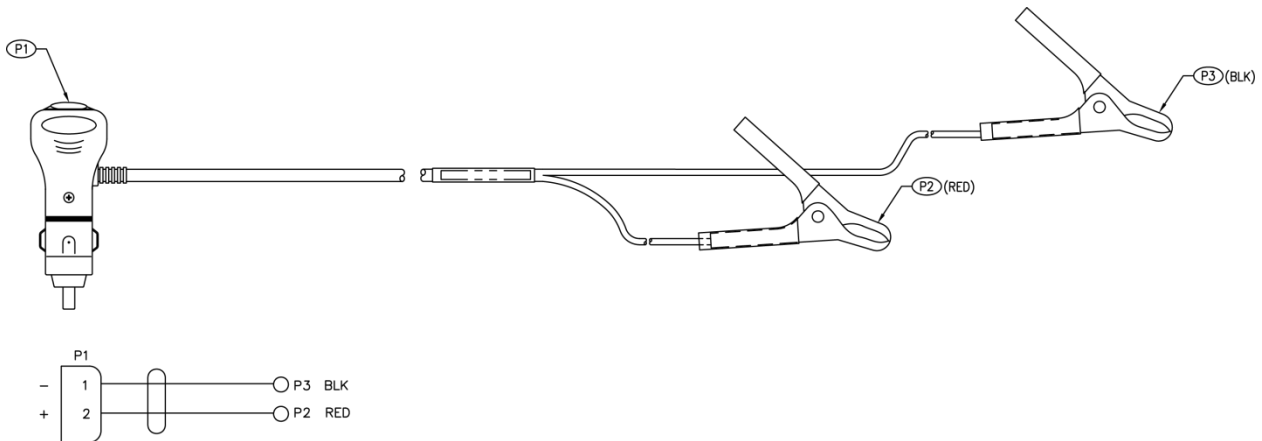

Figure 5. 12VDC Lighter Adapter Cable
- Protect the cables with hose if zip-ties are used to secure them to structures (see Figure 5).